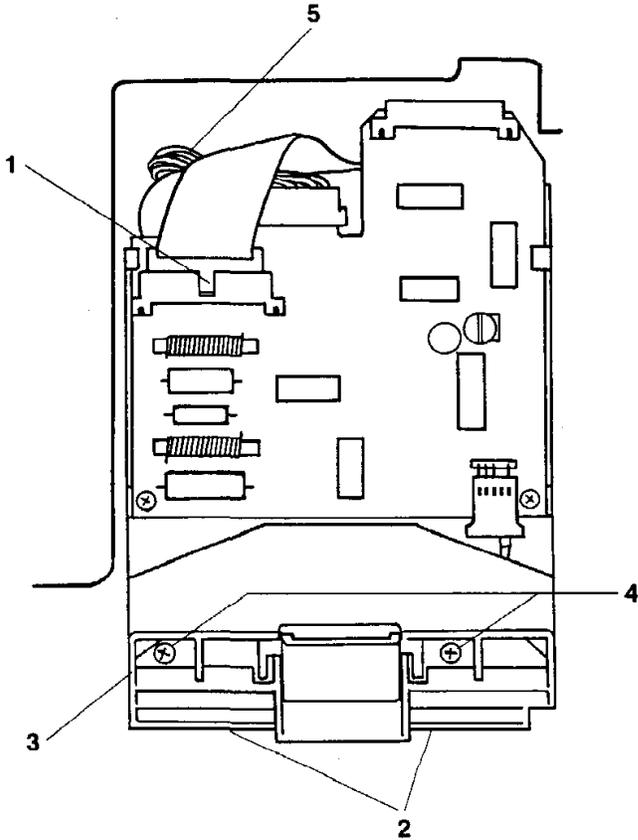

FIGURE 8
1. Draw a pencil line on the Apple III chassis along the front (See Figure 8, Item 2) and left side (Figure 8, Item 3) of the disk assembly bezel. This will serve as a location reference when the disk assembly is re-inserted.
2. Loosen completely (but don't remove yet) the two Phillips head screws that mount the disk assembly to the Apple III chassis. They can be seen by looking down through the front diskette guide and door assembly. (See Figure 8, Item 4).
3. Loosen but don't remove the screw in the double retaining clip that secures the back of the disk assembly. (See Figure 8, Item 5).